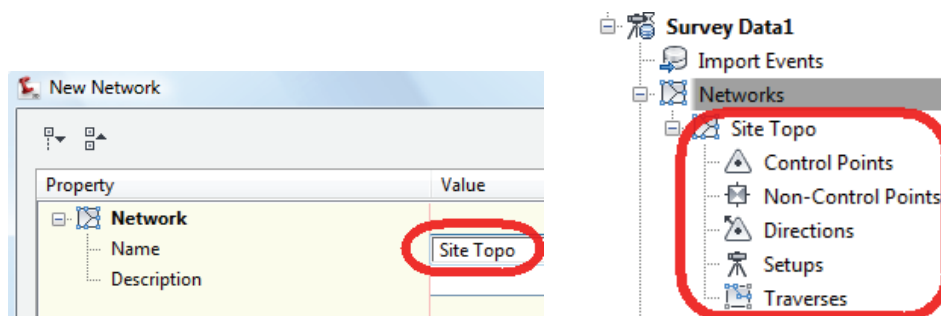

Figure 2–13
2. In the New Network dialog box, enter **Site Topo** for the network name, as shown on the left in Figure 2–13, and click  to create the network. The new network appears under the *Survey Data1>Networks* collection, as shown on the right. Expand the *Site Topo* network by clicking on its adjacent + sign.